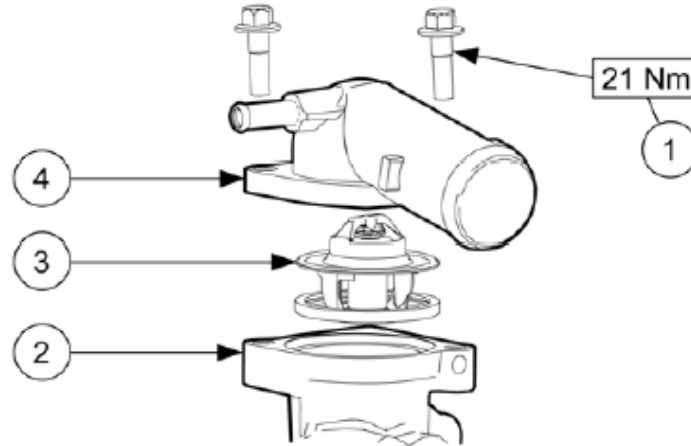

Fig. 1.
- 4 Loosen the two bolts retaining the upper water outlet adapter, leave the upper radiator hose attached to the upper water outlet adapter. See fig. 1.